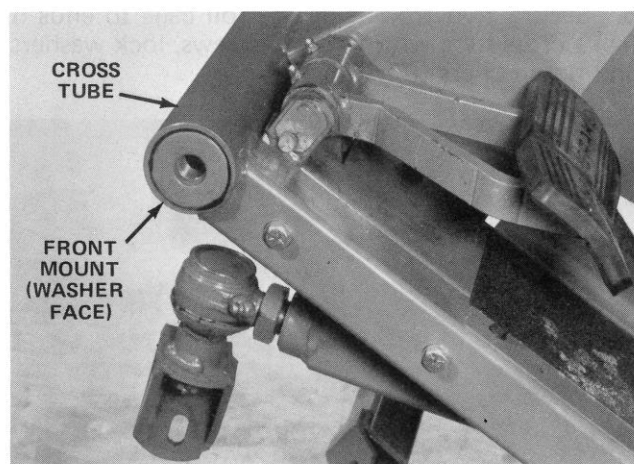

Figure 1
2. Slide front mount into cross tube so washer face is flush with end of tube (Fig. 1). Next, weld the mount in place. Install remaining mount into other end of cross tube.